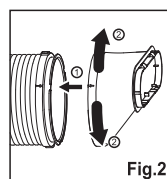

Fig.2
- 3.Use the same way to connect the hose outlet and hose; (Fig. 2)